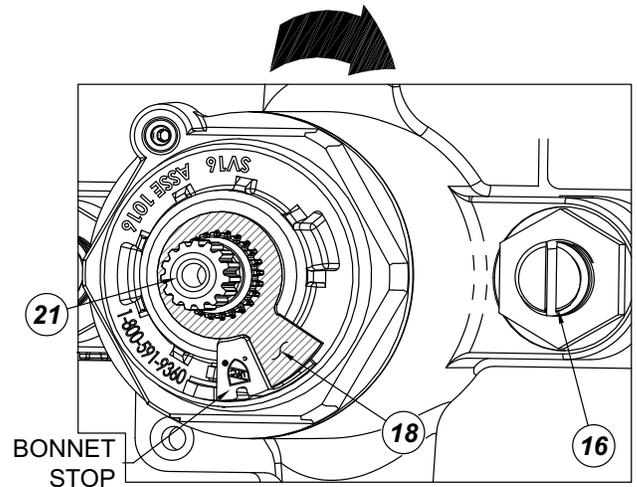

FIGURE 12
3. With the flow of water now shut off, place the first temperature stop washer **18** on the valve stem **21** keyed on the counterclockwise side as close to the bonnet stop as possible. See **Figure 12**.